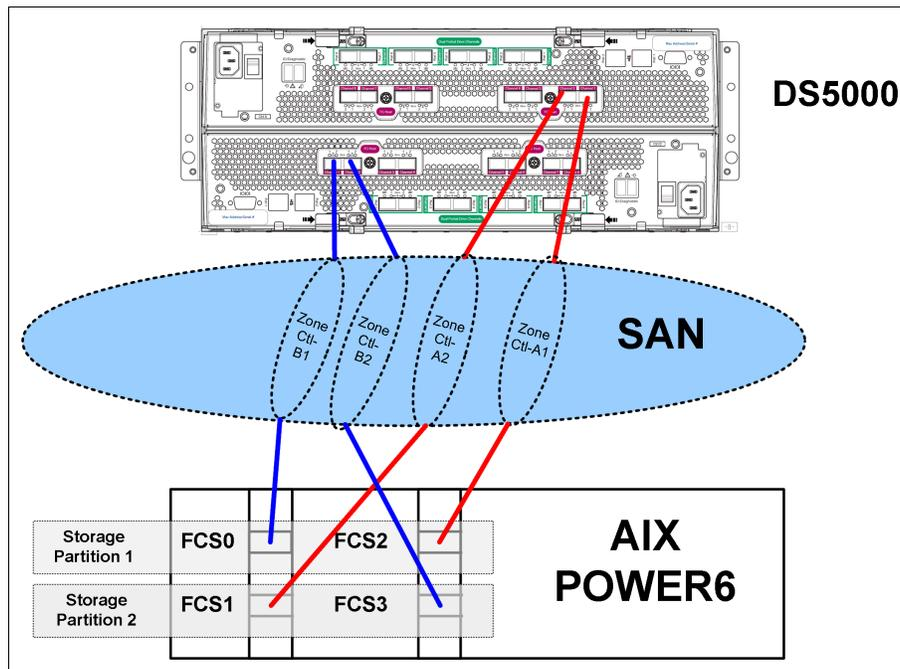

Figure 12-10 Four HBAs, two storage partitions
A configuration with four HBAs and four host ports on DS5000, two on each DS5000 controller is supported with appropriate zoning as shown in Figure 12-10. It is very important to define two hosts on DS5000 mapping, each defined host residing in a separate host group, which results in a logical drive being allocated to either one Host Group or the other so is only accessed by one set of HBAs.
In Figure 12-10, dual HBAs have been used to eliminate consequences of an adapter failure, therefore the connectivity is not completely lost to the host group. HBA fcs0 and fcs2 reside in one DS5000 Host Group, while fcs1 and fcs3 are in the other. If fcs0 and fcs1 would be in the same Host Group, then the physical adapter is a single point of failure and connectivity is lost to that Host Group when the adapter fails.
- ▶ More than two HBAs on AIX host *without* the use of multiple Host Groups defined on DS5000 (see Figure 12-10 for an example) are not supported.